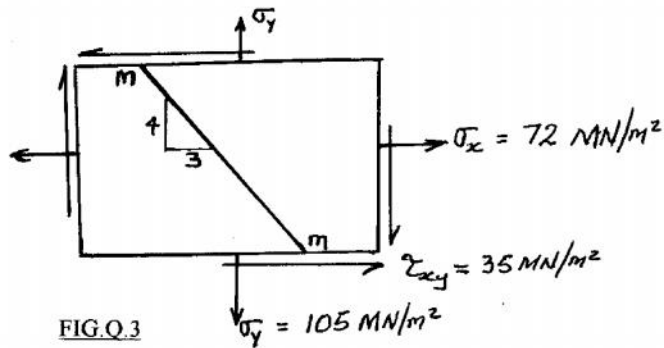

FIG.Q.3
3. The figure Q.3 represents the state of stress at a point.